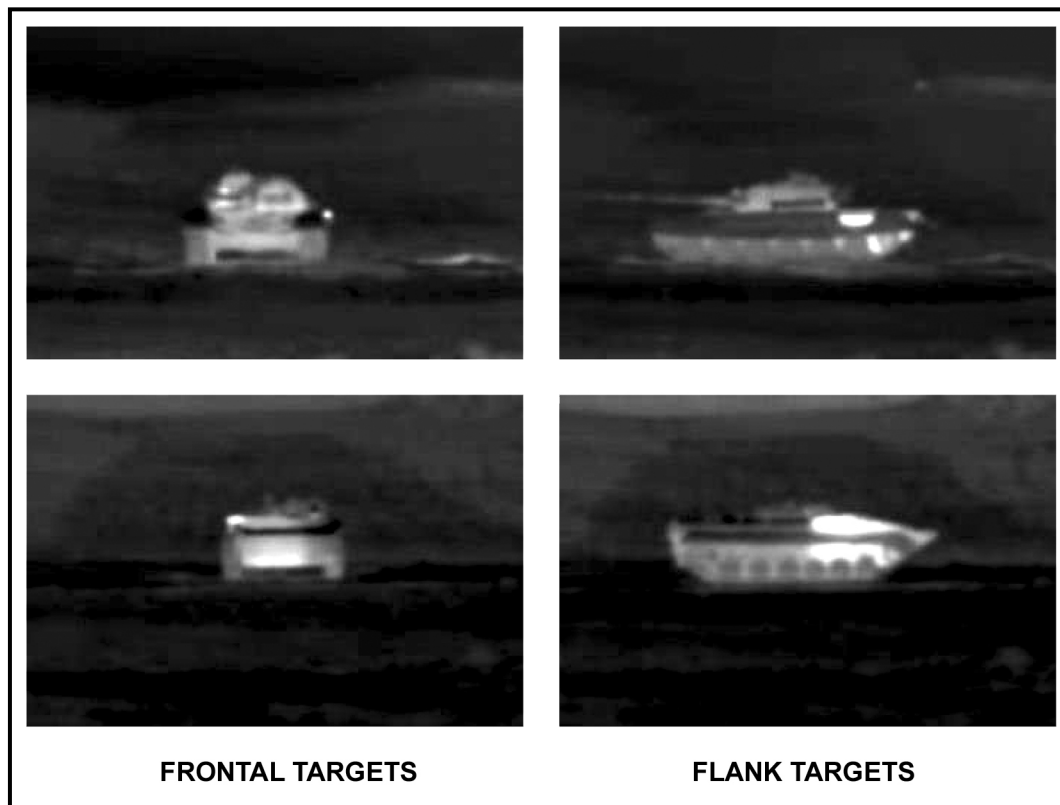

Figure C-41. Classification and recognition features of flank versus frontal target.
(2) **Target Aspect.** Flank targets are easier to classify and recognize than frontal targets (Figure C-41). The profile exposes the suspension and other distinctive features, such as turrets, engine compartments, gun tubes, or other armament.